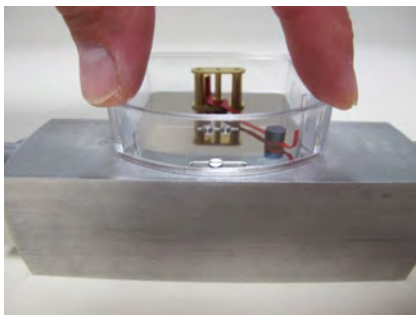

Fig. 69
16. ▶ Place the plastic housing on the display base plate and press until it snaps into place. (Fig. 69)